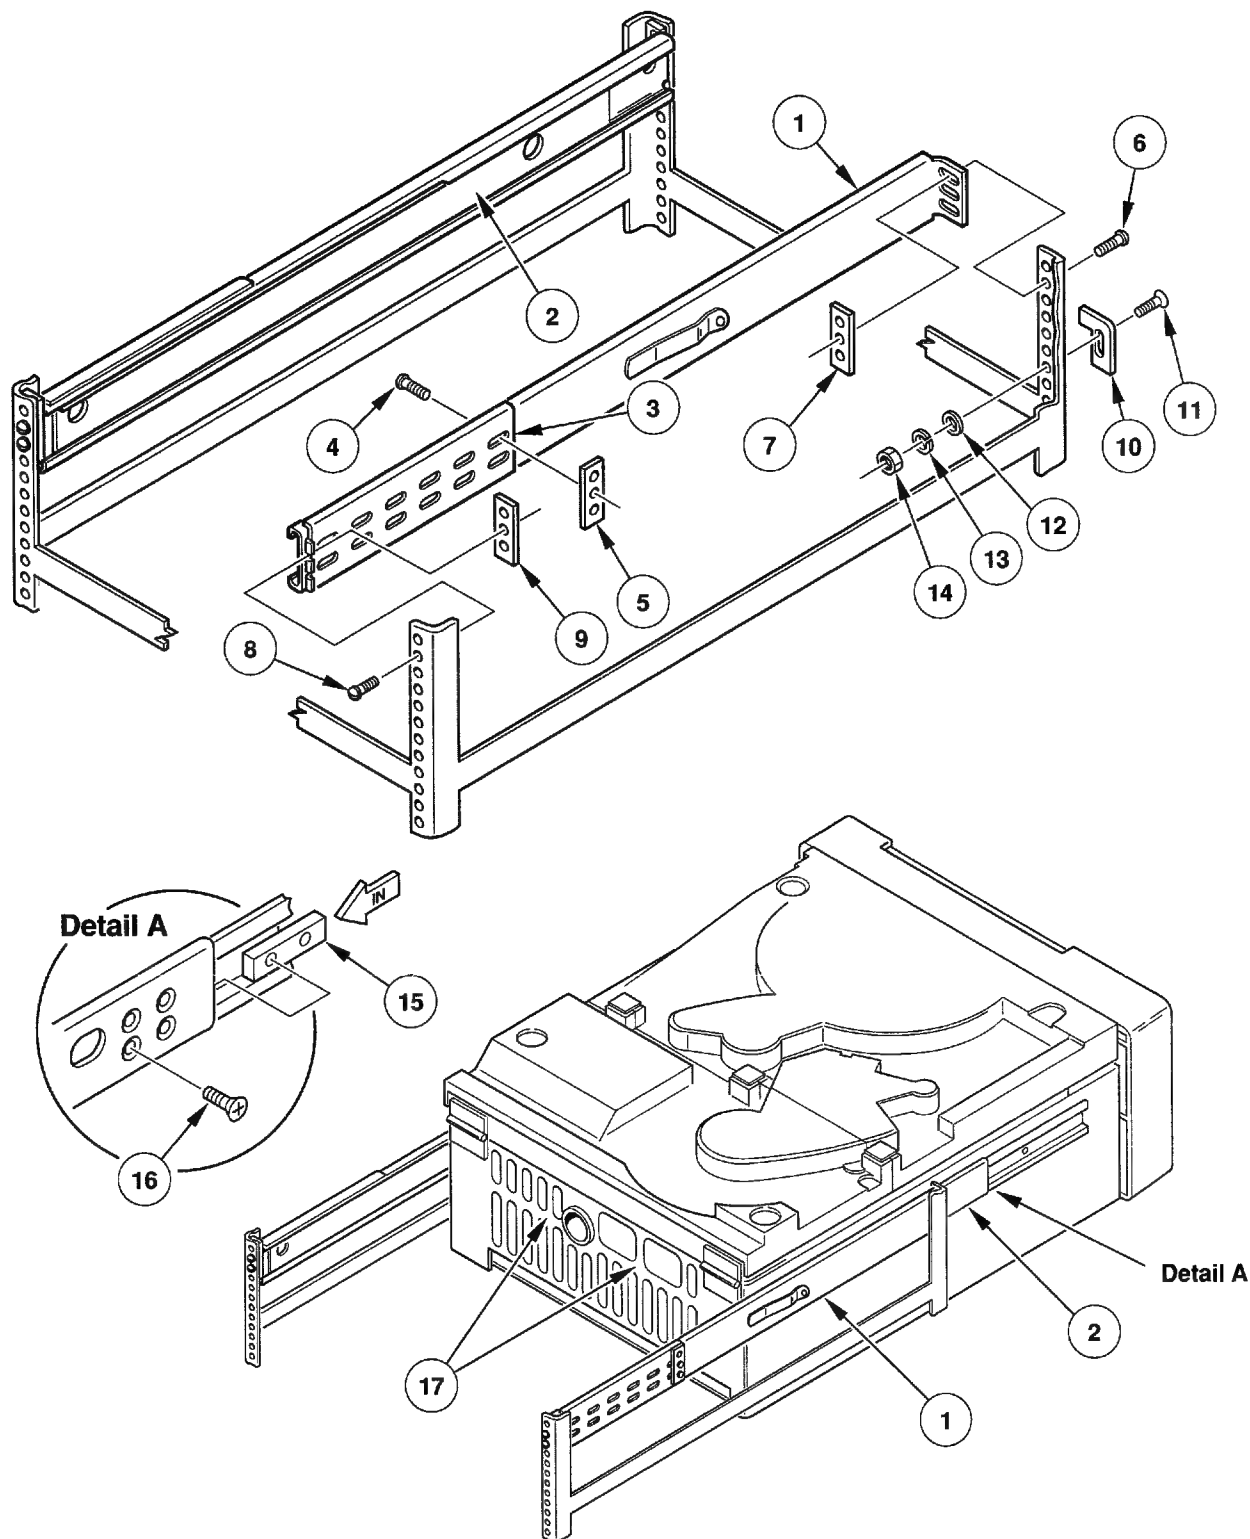

Figure 2-1. Rack Mount
Refer to the drawing from the Hardware Installation Kit that came with the tape drive, to drawing 960264-000 at the back of this manual, and to Figure 2-1 while following this procedure:
9. Route the power cord through either opening in the bottom rear of the enclosure. Be sure to provide a service loop using a cable clamp at either location (17 of Figure 2-1) provided in the chassis.